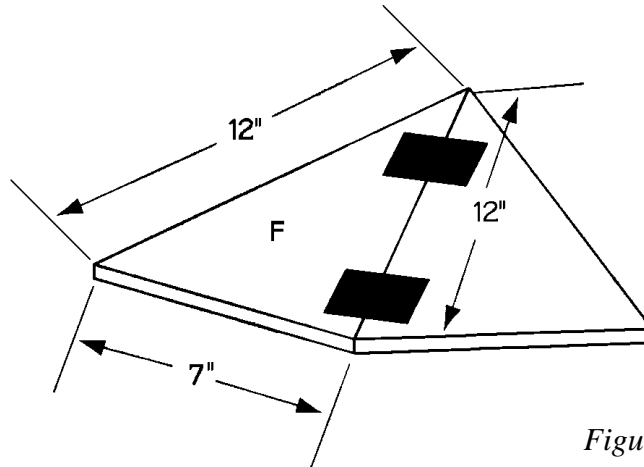

Figure 5
1. Cut eight triangular roof panels (F) from 3/8"-thick plywood, each measuring 12 x 12 x 7 inches. These will be joined together to form an eight-sided cone for the roof.
3. Begin by placing two roof panels (F) on a flat surface, with their 12-inch-sides exactly matching, as shown in *Figure 5*. Cut two 2-inch-long strips of canvas fabric. Place one strip about 2 inches from the top, and one strip about 1 inch from the bottom of the panels. Use a staple gun to staple the fabric to each of the two roof panels (F).
4. Repeat step 3 to attach the remaining six roof panels (F) to the first two.